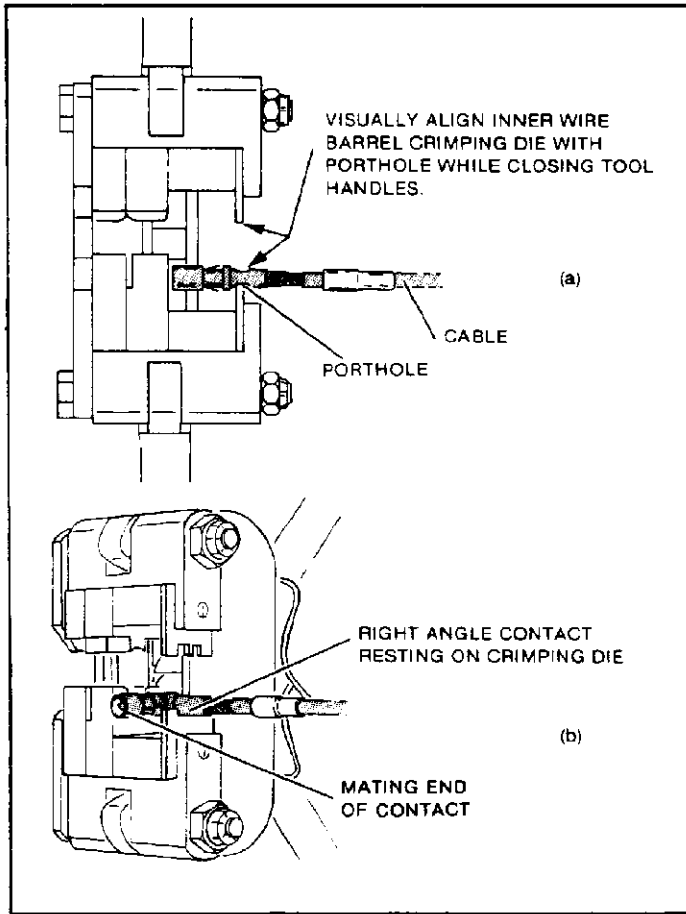

Figure 6
- Position mating end of right-angle contact in crimp nest as shown in Figure 6(b).